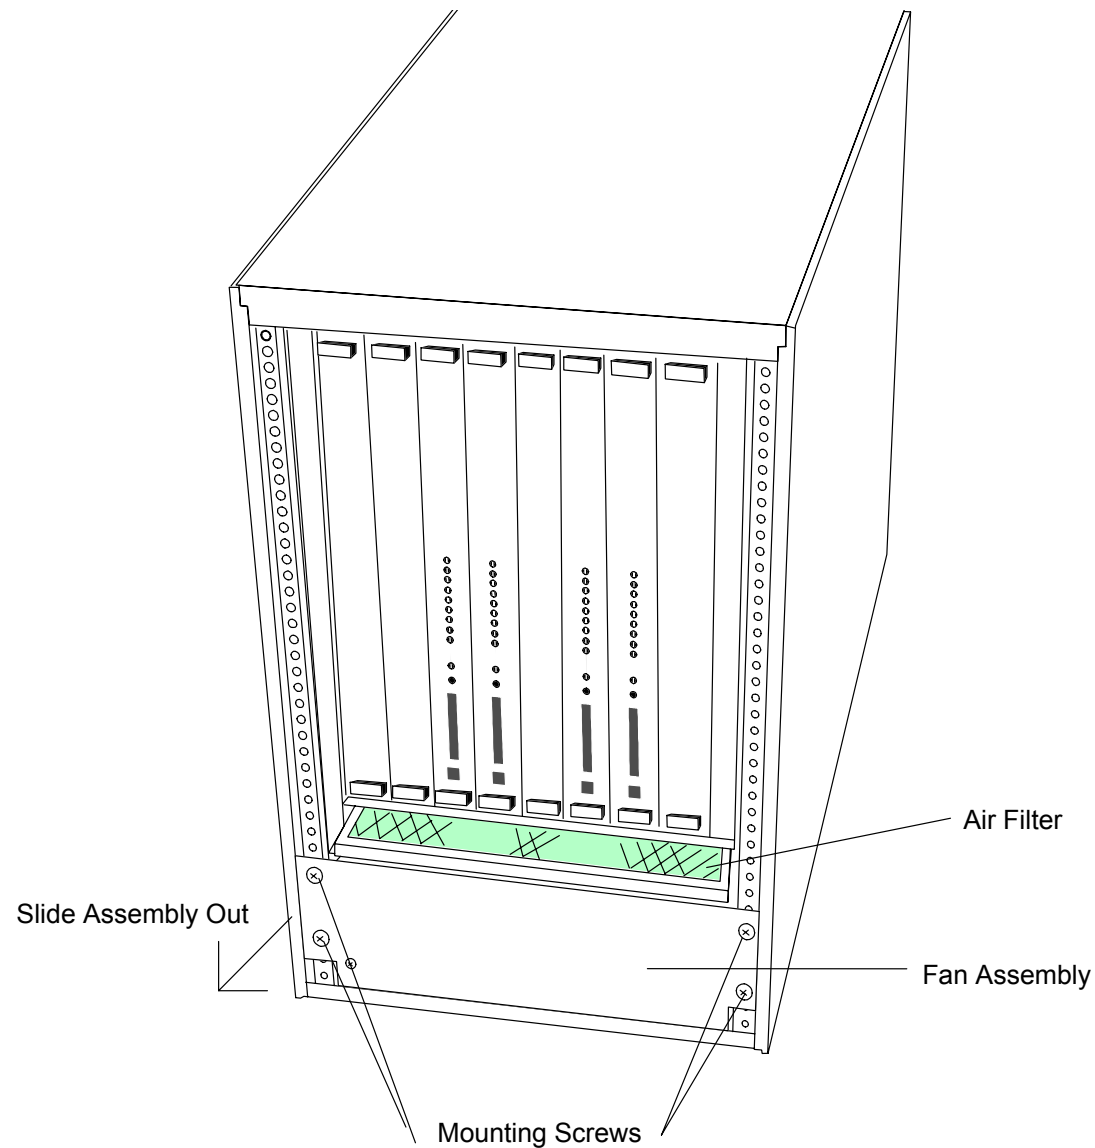

FIGURE 331 Fan Assembly Location
4. From the front, remove the 4 screws that hold the fan assembly in place. Slide the entire fan assembly out. Refer to Figure 331.